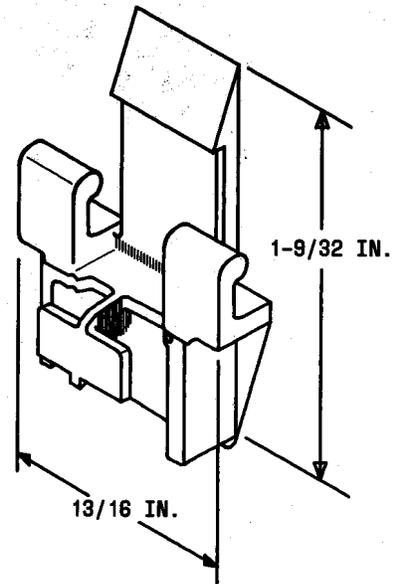

Fig. 1 — B Siding Clip
2.12 Be sure protrusion of fasteners will not cause damage or injury. Fasteners for siding can be of the following variety: tapping screw, B or C plastic anchor, toggle bolts, B wall screw anchors, or B siding clip (Fig. 1).